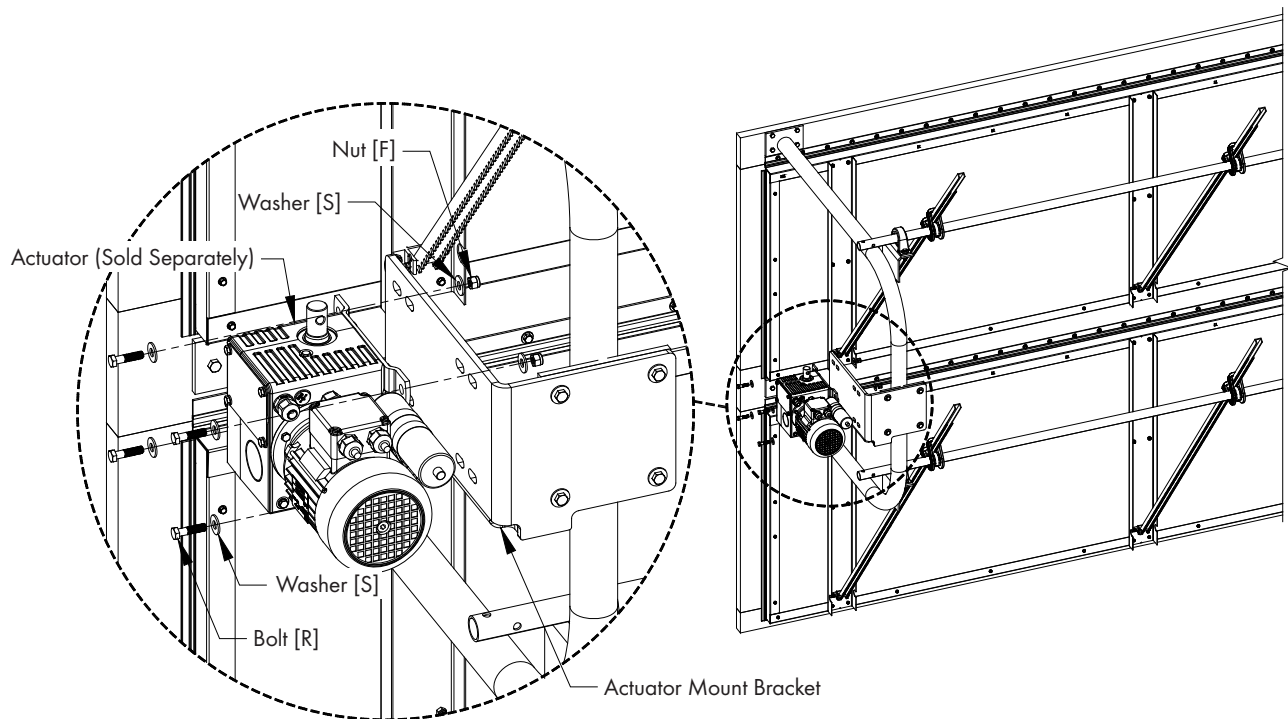

Figure 48
Attach Actuator to Actuator Mount Bracket using (4) Bolts [R], (8) Washers [S] and (4) Nuts [F]. See Figure 48. Make sure the Shaft extending from the Actuator is aligned with the Drive Pipe.